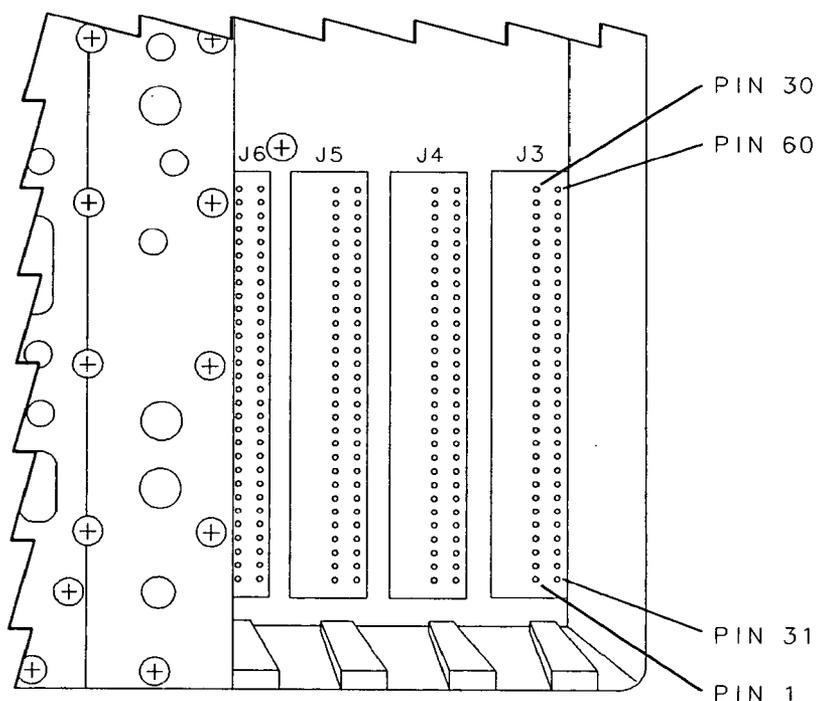

Figure 8-4. Card-Cage Connector Pin Designation
- Figure 8-4, Card-Cage Connector Pin Designation. Provides the pin-numbering sequence for the four motherboard connectors in the card cage. The motherboard connector for the A7 Analog Interface assembly (not shown) has the same pin-numbering sequence, but is installed in a position that is reversed when compared to the card-cage connectors.